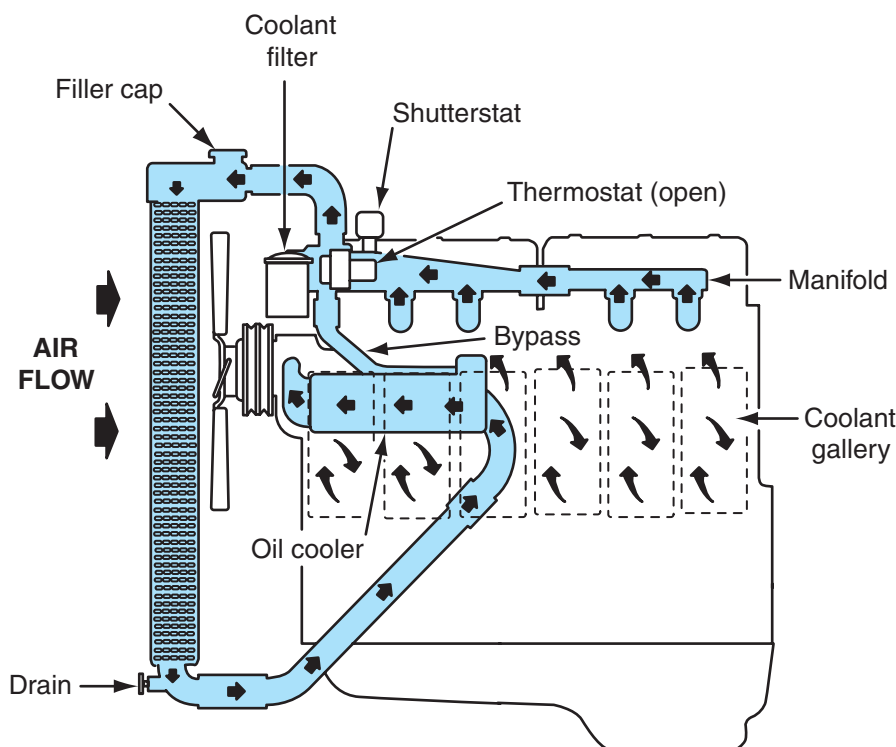
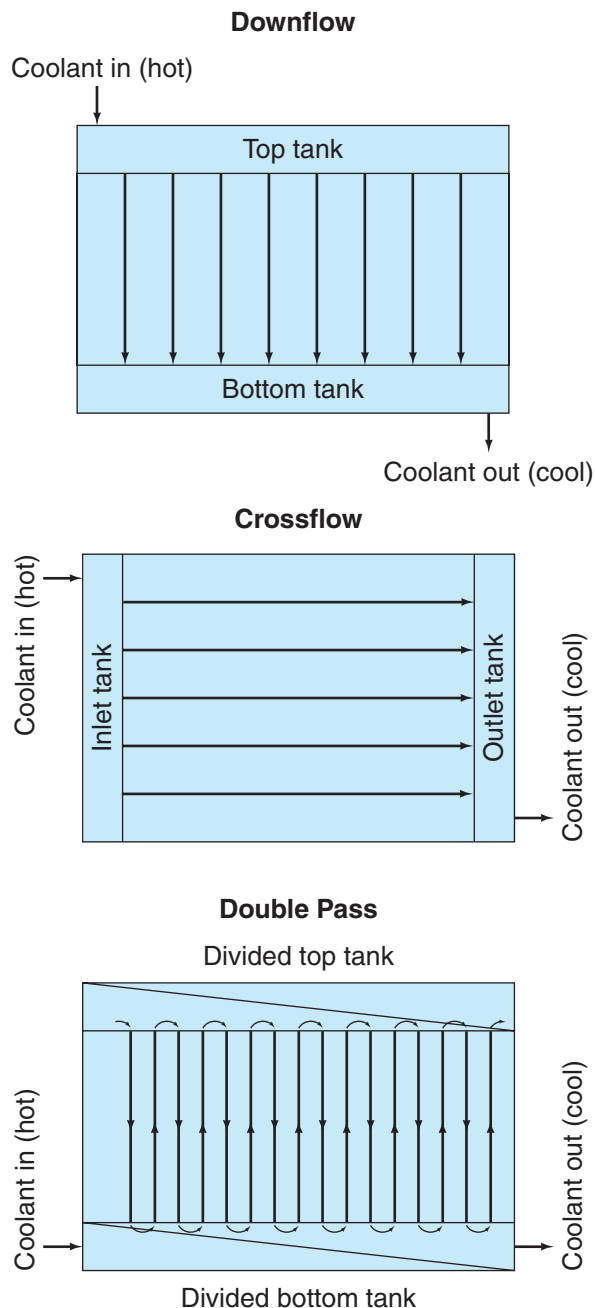

Figure 8-6 Cooling system flow with a downflow radiator.
Figure 8-7 Coolant flow shown on downflow, cross-flow, and double pass radiators.
- **Downflow radiators:** Coolant enters the radiator through the top tank and flows, aided by gravity, to the bottom tank by means of vertical tubes. These tubes connect the upper and lower tanks. Downflow radiators are a single-pass design. Coolant is routed from the engine to the top tank, flows to the bottom tank, and then exits. The location of a typical downflow radiator is shown in **Figure 8-6** and the coolant routing is illustrated in **Figure 8-7**.